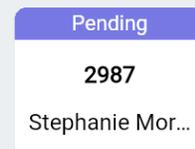

Fig. 144 – Incoming transfers card
- 🔑 The top bar shows the status of the transfer request: **Pending**, **Accepted**, or **Declined**, as shown in Fig. 144.